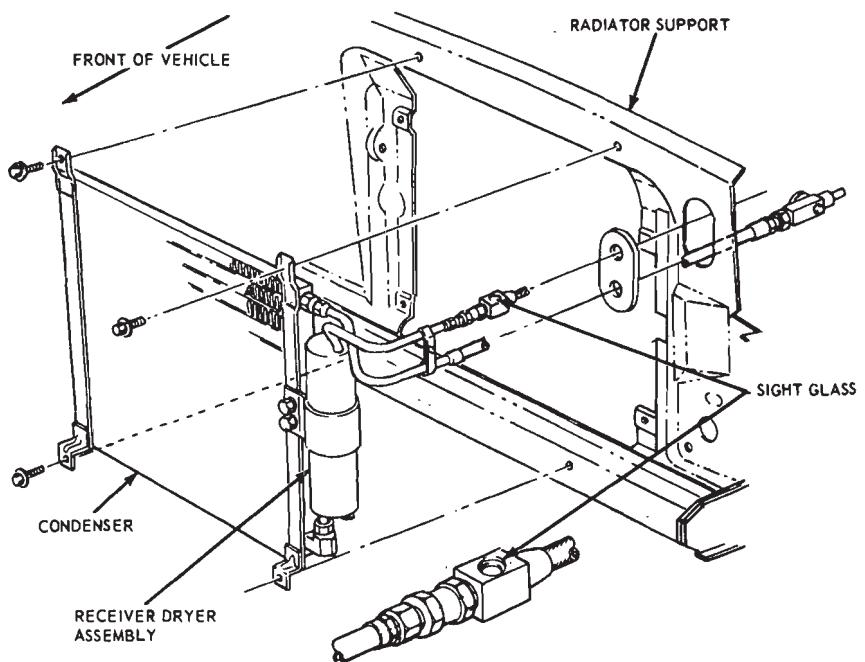

FIG. 51—Condenser Installation—Mustang and Cougar
3. Disconnect the two upper hoses from the tank (Fig. 51).
3. Remove the hood lock and support assembly (Fig. 51).
to-condenser hose at the receiver tank (Fig. 51).
Discharge the air conditioner refrigerant system. Remove the hood latch support and the horns. Disconnect the refrigerant lines and remove four condenser attaching screws. Then, remove the condenser (Fig. 51).